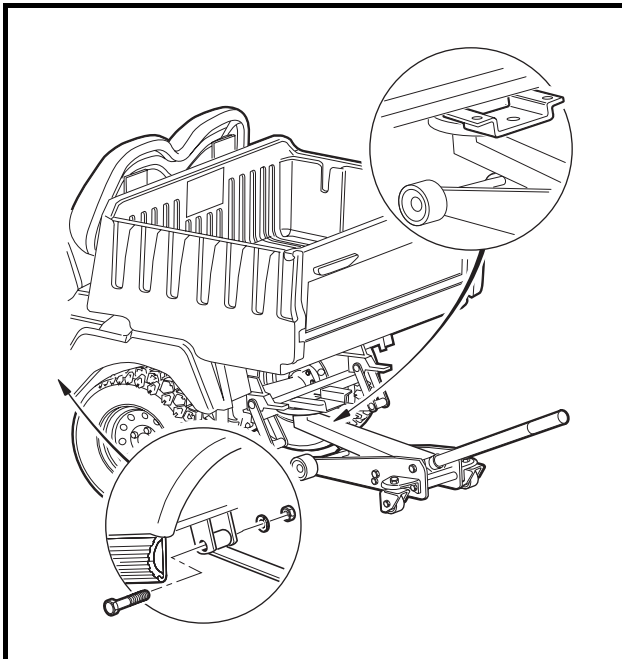

Figure 19-39 Leaf Springs
13. Position the floor jack under the rear frame crossmember and raise the jack high enough to support the vehicle (Figure 19-39, Page 19-15). Make sure the vehicle is stable on the jack, then remove the jack stands.